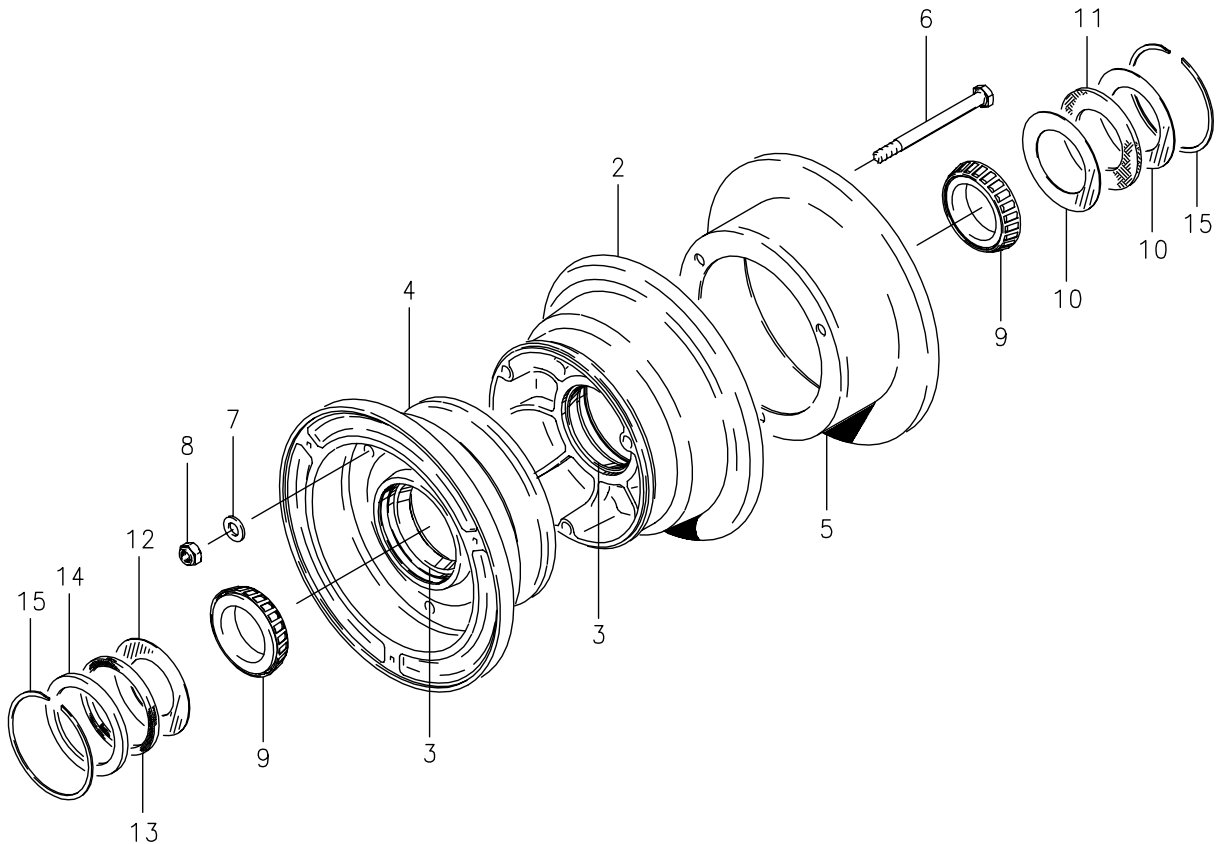

Figure 2, 40-75B Wheel Assembly Exploded View
Refer to IPL Figure 2 and IPL Figure 3 for identification of wheel and brake assembly components.
- (1) For Subassembly and Parts identification: See Figure 2; 40-75B IPL
- (3) 199-60 CHROME is identical to 199-60 except for chrome plated brake disc: see Figure 2; 40-75B IPL
- (4) 199-60 GOLD is identical to 199-60 except for performance gold brake disc: see Figure 2; 40-75B IPL